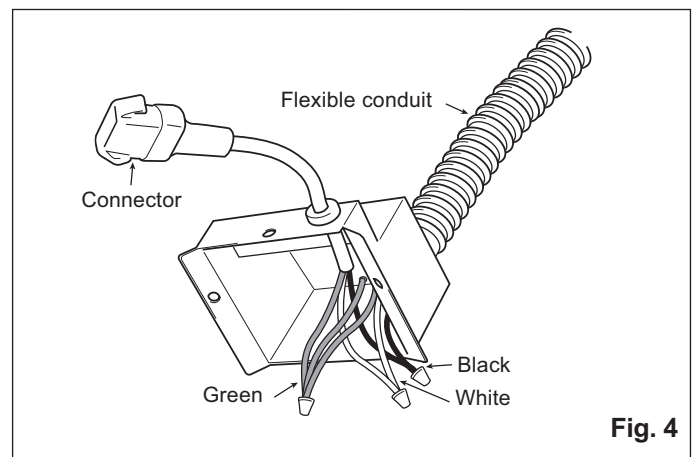

Fig. 4
(Fig. 4): black to black; white to white; green to greens.
10. Refer to the wiring diagram above. Using the wire nuts, connect the house power wires to ventilating fan wires. (Fig. 4 on page 5): black to black; white to white; green to greens.